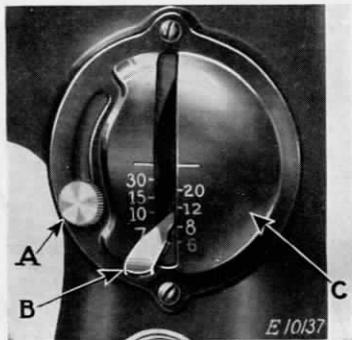

FIG. 16. SHOWING LEVER FOR REVERSING DIRECTION OF FEED AND REGULATING LENGTH OF STITCH
To feed the goods **from you**, push down the stitch regulator lever (B, Fig. 16) as far as it will go.
The machine can be adjusted to make from 6 to 30 stitches to the inch as indicated by the numerals on the stitch indicator plate (C, Fig. 16).
The number of stitches to the inch that the machine is set to make is indicated by the number which is in line with the upper side of the stitch regulating lever (B, Fig. 16).
To change the length of stitch, loosen the thumb screw (A, Fig. 16) and move it to the bottom of the slot. Then move the stitch regulating lever (B) until its upper side is in line with the number of the desired length of stitch. Now move the thumb screw (A) until the stitch regulating plate touches the lever (B), then tighten the thumb screw (A).